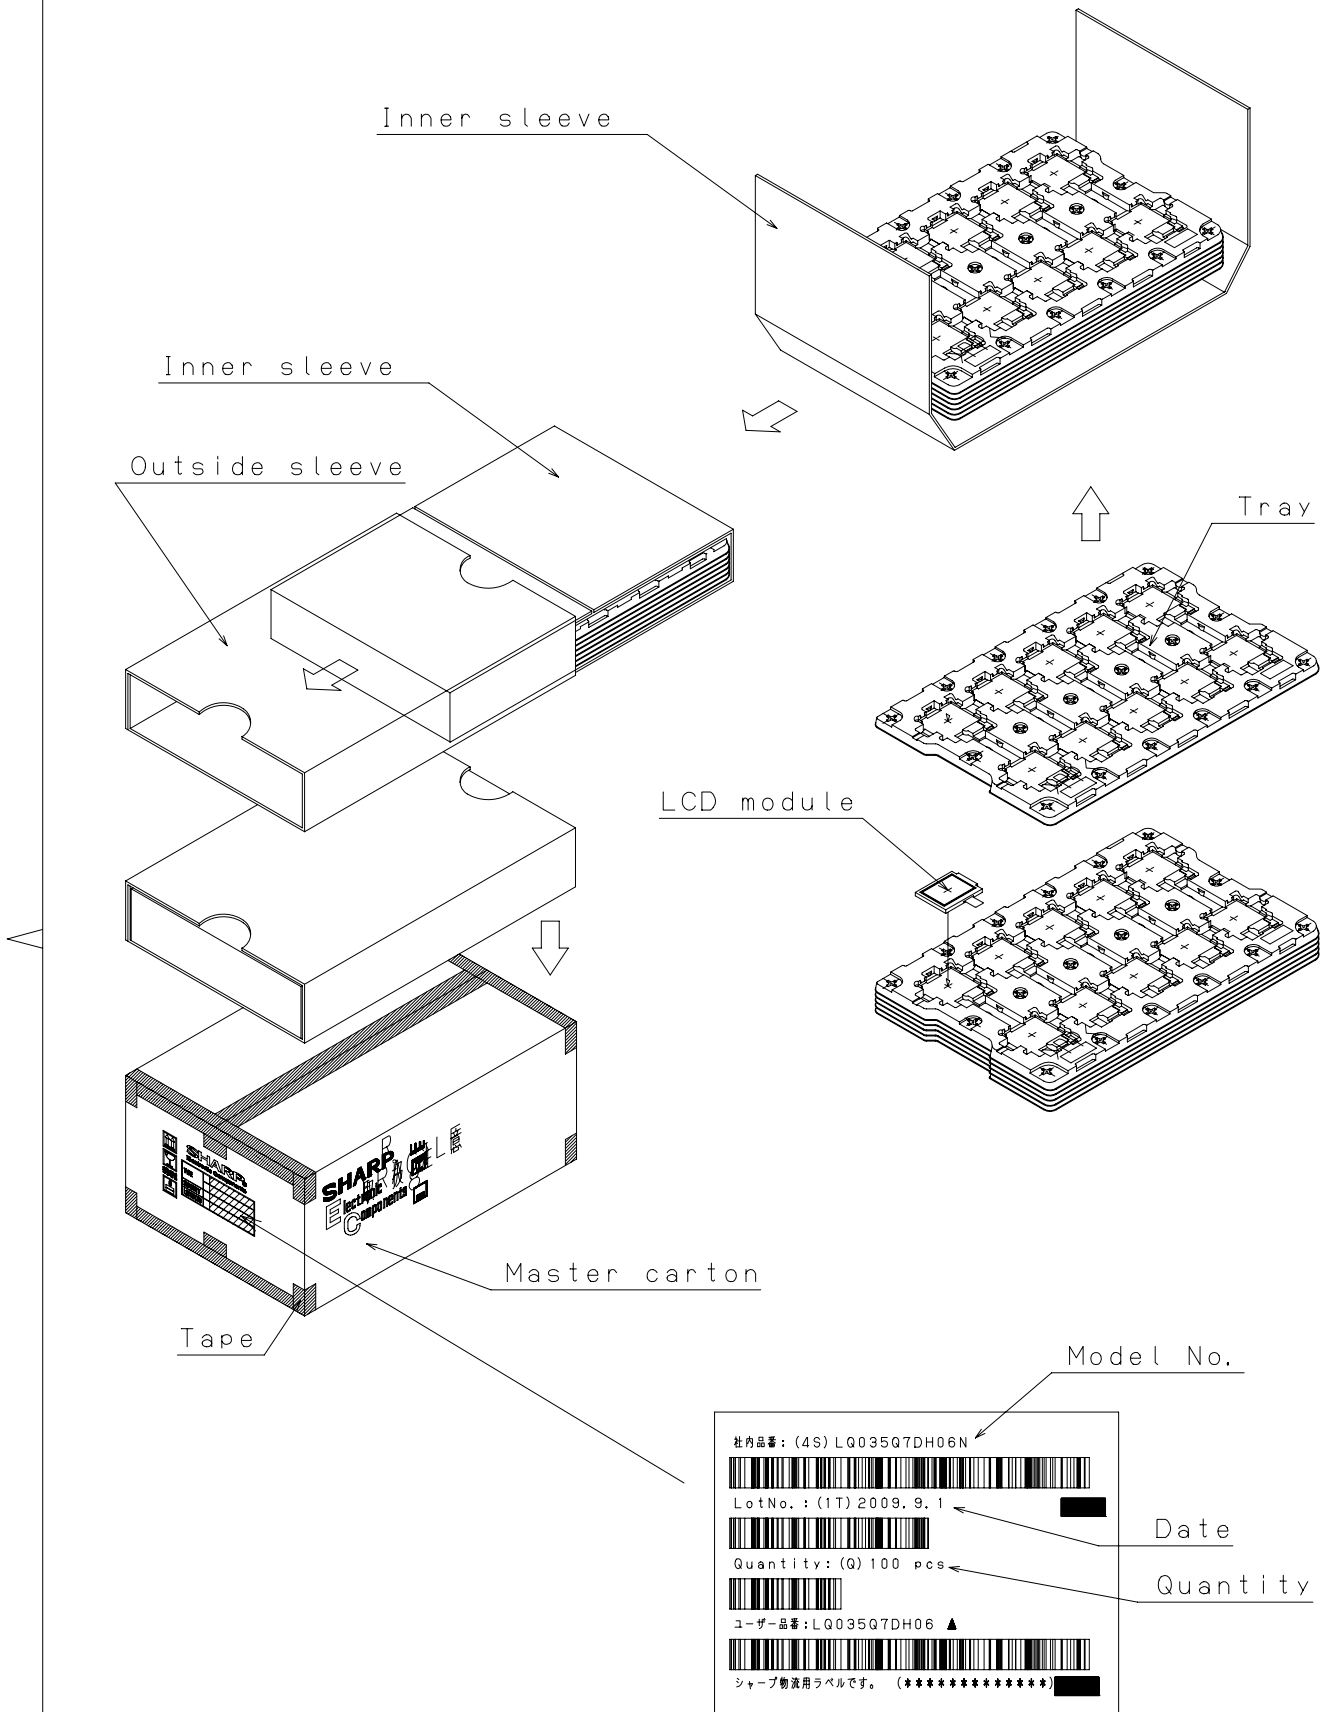

Fig.3 Packaging form
(16) Forwarding form(see Fig.3 Package Form)
(17) Piling number of cartons: Max 8
(18) Package quantity in one cartons: 100pcs
(19) Carton size: 575mm × 332mm × 209mm
(20) Total mass of 1 carton filled with full modules: 8000g